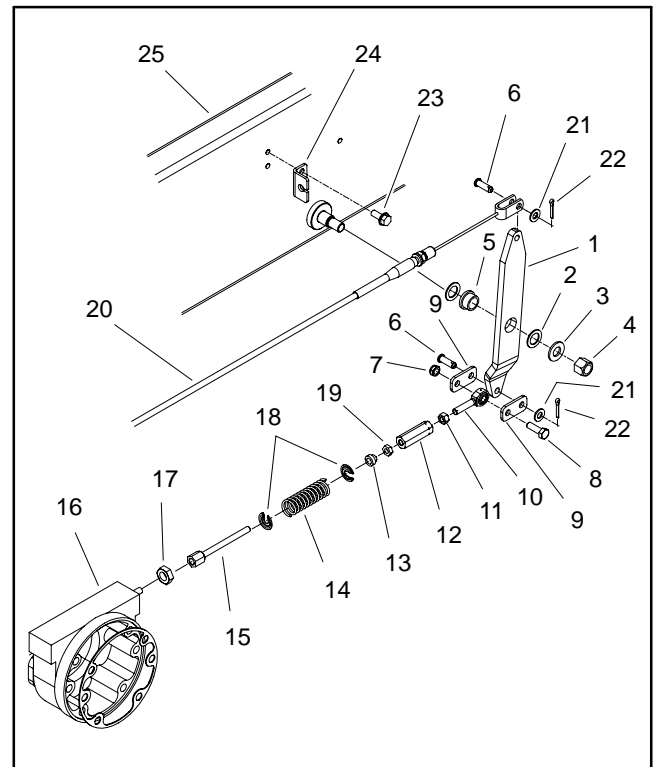
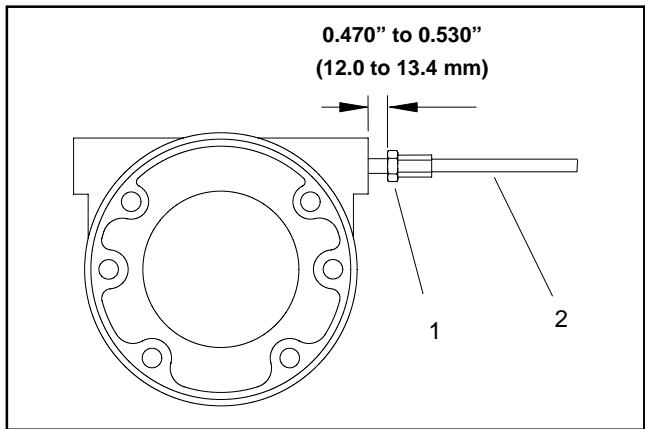

Figure 2
Figure 5
6. Disconnect brake link assembly from brake lever, frame bracket and pull rod on brake assembly (Fig. 2).
8. Remove flange head screws (item 9) securing brake assembly to frame.
9. Remove brake assembly from machine. Be careful to not drop splined brake shaft (item 3) as brake assembly is removed.
11. Remove and discard gasket (item 18). Make sure that all gasket material is removed from both brake and planetary assemblies.
2. Apply gasket sealant to sealing surfaces of new gasket (item 18). Apply gasket to brake assembly.
4. Secure brake assembly to planetary assembly with four (4) flange head screws (item 9). Tighten screws in a crossing pattern to a torque from **75 to 85 ft-lb (101 to 115 N-m)**.
5. Secure brake link assembly to pull rod on brake assembly, frame bracket and brake lever (Fig. 2). Brake link end should be completely threaded onto pull rod before tightening jam nut.
10. Check and adjust brake cables for proper brake operation. If necessary, adjust hex link (item 12 in Fig. 2) so that pull rod jam nut is positioned from 0.470" to 0.530" (12.0 to 13.4 mm) from brake casting surface when brakes are disengaged (Fig. 5).